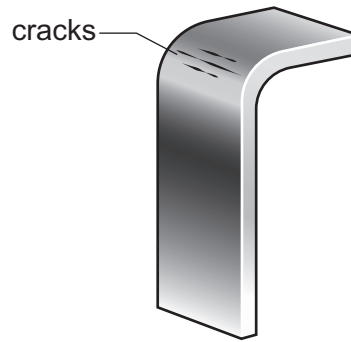

Fig. 7.1
- 7 Fig. 7.1 shows a strip of metal that has been work hardened.